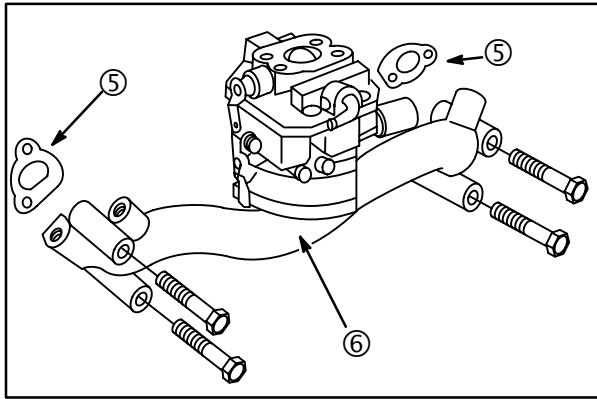

Fig. 30
- a. Be sure locating pin (2) in spacer fits in recess (4) in manifold.
2. Install new gaskets (5) and carburetor/manifold assembly (6) to cylinder heads, **Fig. 30**. Torque screws to **140 in. lbs. (16 Nm)**.